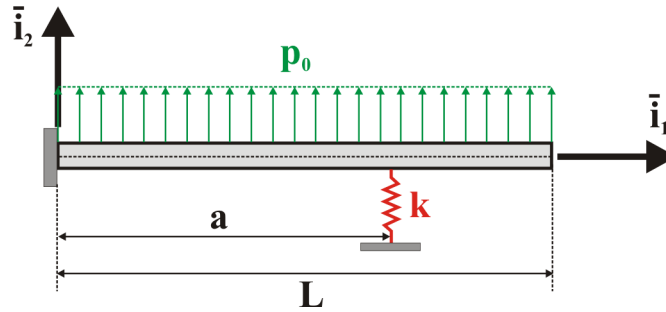

Figure 2: Cantilevered beam with concentrated spring.
The cantilevered beam depicted in fig. 2 is of length L , uniform bending stiffness H_{33}^c , and is subjected to a uniform distributed load p_0 . A concentrated spring of stiffness constant k is connected to the beam at a distance a from its root. (1) Find the exact solution of the